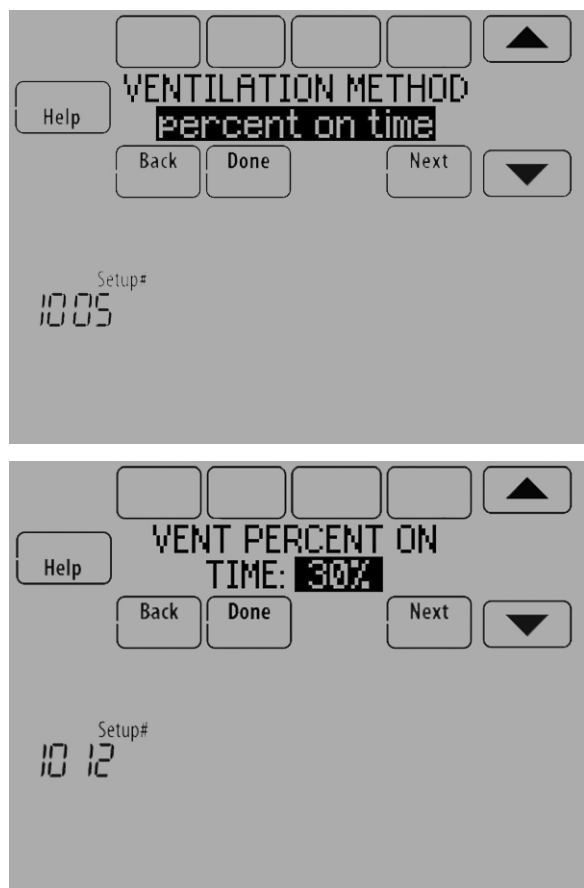

Fig. 233.
8. If Percent On Time was selected for ISU 1005, select the Ventilation Percent on Time. See Fig. 233.